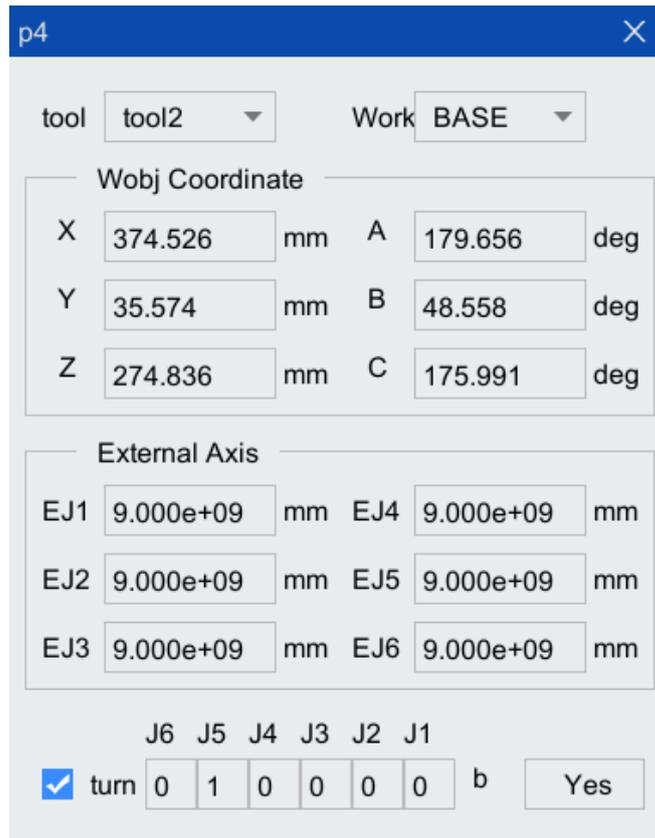

Figure 5-21 "p" variable display box
Step2. Click <...> button after the position variable p to pop up "p" variable display box in Figure 5-21, which displays the position information of the current TCP of the robot body relative to the workobject coordinate system and the current position information of the external axis. The position is displayed but cannot be modified. Click <Yes> button, and then the current position information can be obtained automatically after the instruction is inserted.
Step3.Click <Yes> button in Figure 5-21 to pop up "Do you sure to create the variable p1" dialog box, as shown in Figure 5-22. Click <Yes> button, variable creation completed.
Step4.Figure 5-21 As shown in, you can re-select the tool/workobject coordinate system, or select or cancel the turn value. After clicking <Yes> button, the parameters t and w in the PTP instruction box will display the currently selected tool or workobject coordinate system (see Figure 5-23); if you want to modify it, you must complete the modification through "Revise Cmd" or "Get pose" in the toolbar of the program editor.